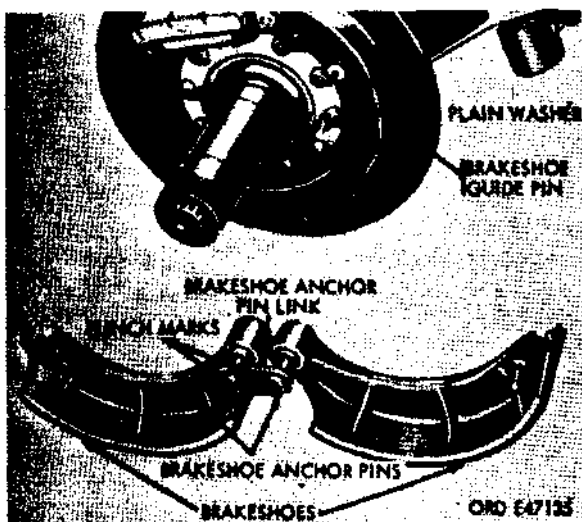
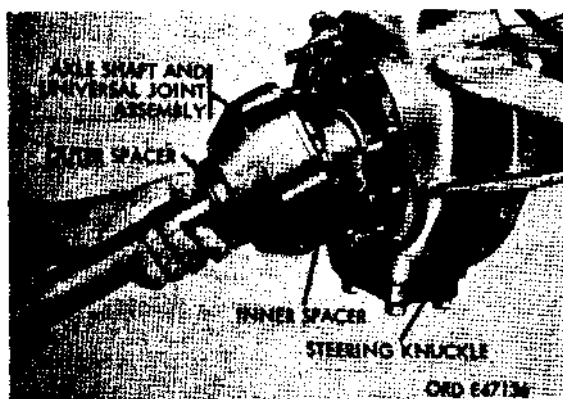

Figure 345. Brakeshoes removed
Figure 346. Removing axle shaft and universal joint assembly
- from the brake backing plate (fig. 345) as an assembly.
- (4) Remove oil slinger and brake plate. Remove the nuts and lockwashers that attach the oil slinger and brake backing plate to steering knuckle, and remove oil slinger and backing plate.
- (5) Remove wheel spindle. Remove wheel spindle from steering knuckle by tapping with a soft hammer and then driving wedges between spindle and steering knuckle.
- (6) Remove axle shaft and universal joint assembly. Withdraw axle shaft and universal joint assembly (fig. 346) from steering knuckle.